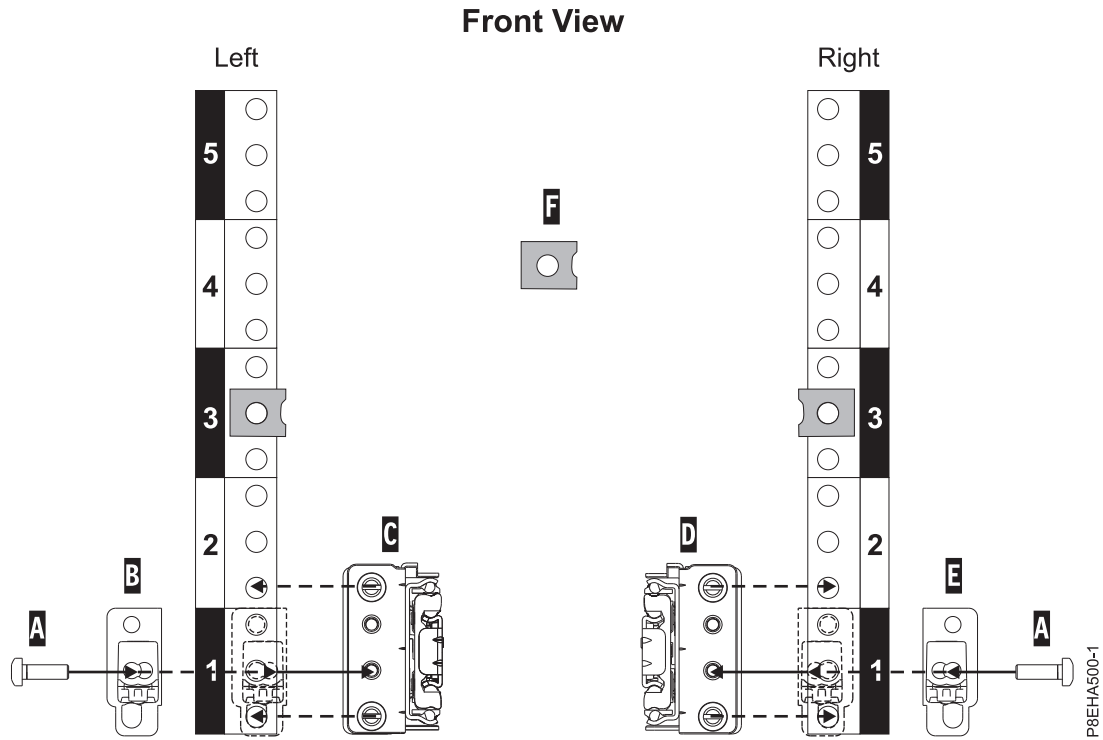

Figure 4. Attaching the slide rails at the front of the rack
3. At the front of the rack, position the left slide rail (**C**) between the left-side front and rear rack EIA mounting standards as shown in Figure 4 on page 5.
6. Position the slam-latch bracket (B) to cover the front EIA space of the slide rail as shown in Figure 4.
7. Use the T25 hex tool to secure the slam-latch bracket to the front rail flange with one M5 X 16mm torx socket pan head screw (A) placed in the middle hole (1b) of the EIA rack unit as shown in Figure 4.
8. Repeat steps 2 on page 4 through 7 for the right slide rail (D) as shown in Figure 4. The right slide rail has an R identifier stamped into the inside front location.
9. Attach the two nut clips (F) to relative EIA locations 3b on both right and left front vertical EIA standards as shown in Figure 4.